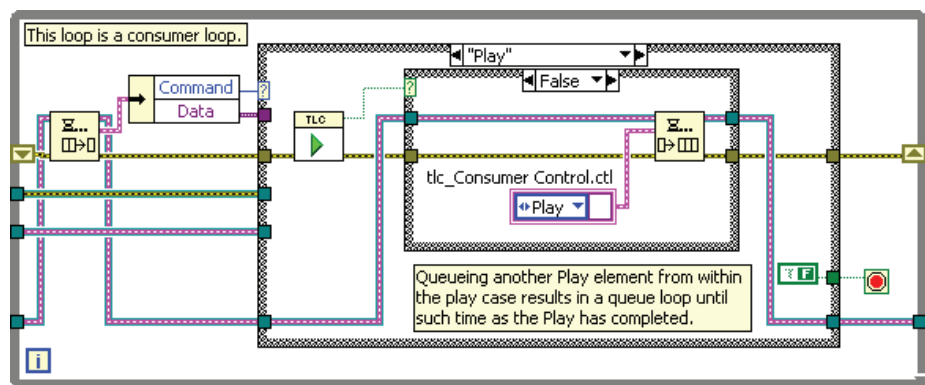

Figure 7-19. Play Case in Consumer Loop
7. Open TLC Main VI and modify the Play state in the consumer loop to call the tlc_Play VI. Add the functionality to repeatedly call the tlc_Play VI, as shown in Figure 7-19. Use the following items: